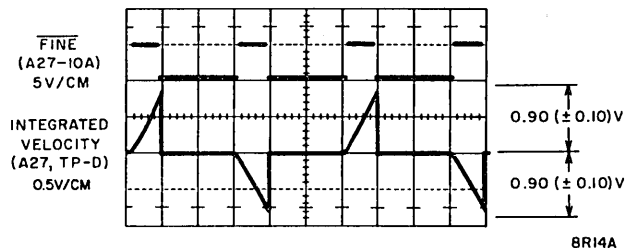

Figure 3-15. Fine Enable Switching Level Waveform
5. Check that Fine switches to 0v when integrated velocity signal is 0.90 (± 0.10) volts. See Figure 3-15.